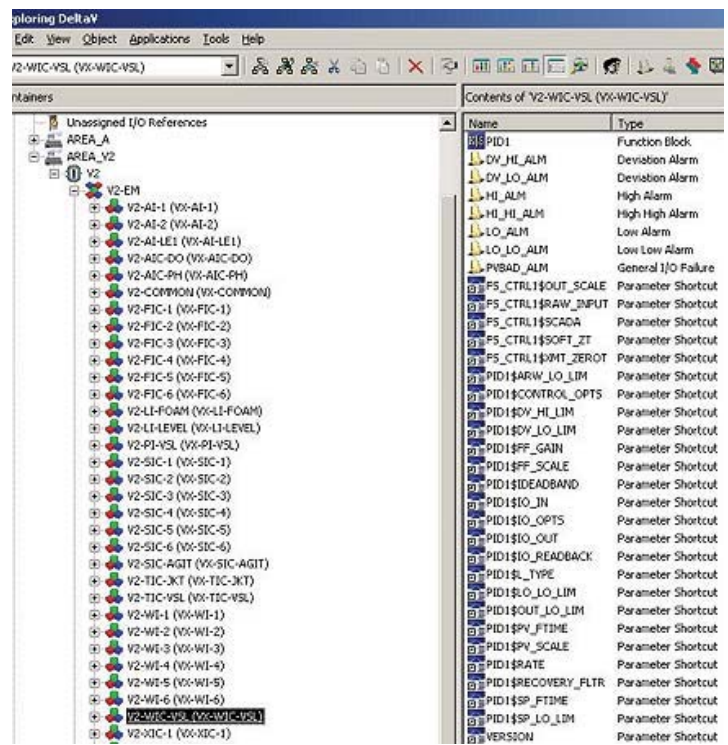

Figure F.2. Module name in the left column.
- Open the Equipment mode. Then locate the module “Vx-WIC-VSL” in the left column (Figure F.2).